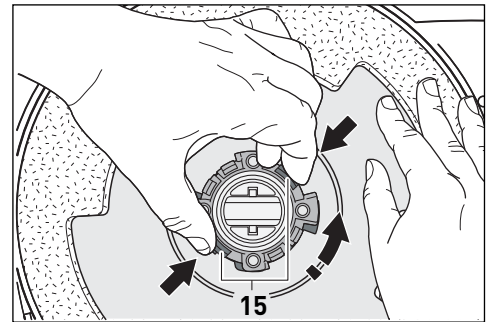

Figure 7
Changing the Floor Pad - Figures 7, 8 & 9
To change the floor pad, press the retainer tabs (15) inward using your thumb and forefinger. Rotate the pad (13) counter clockwise (figure 7). Lift the floor pad out.